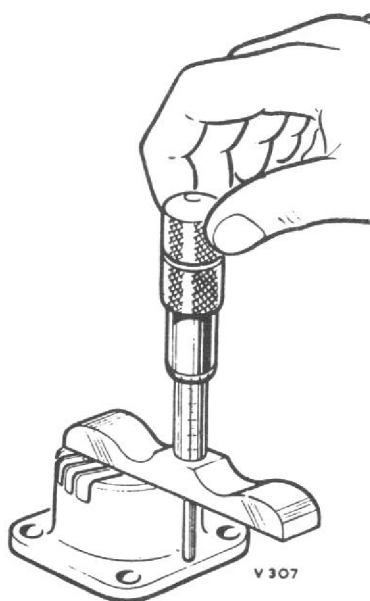

Fig. 7. Measuring the length of an inspection cover
17. (1) Using a depth micrometer, measure the length of the inspection cover from the crest of the labyrinth grooves to the underside of the flange (fig. 7).